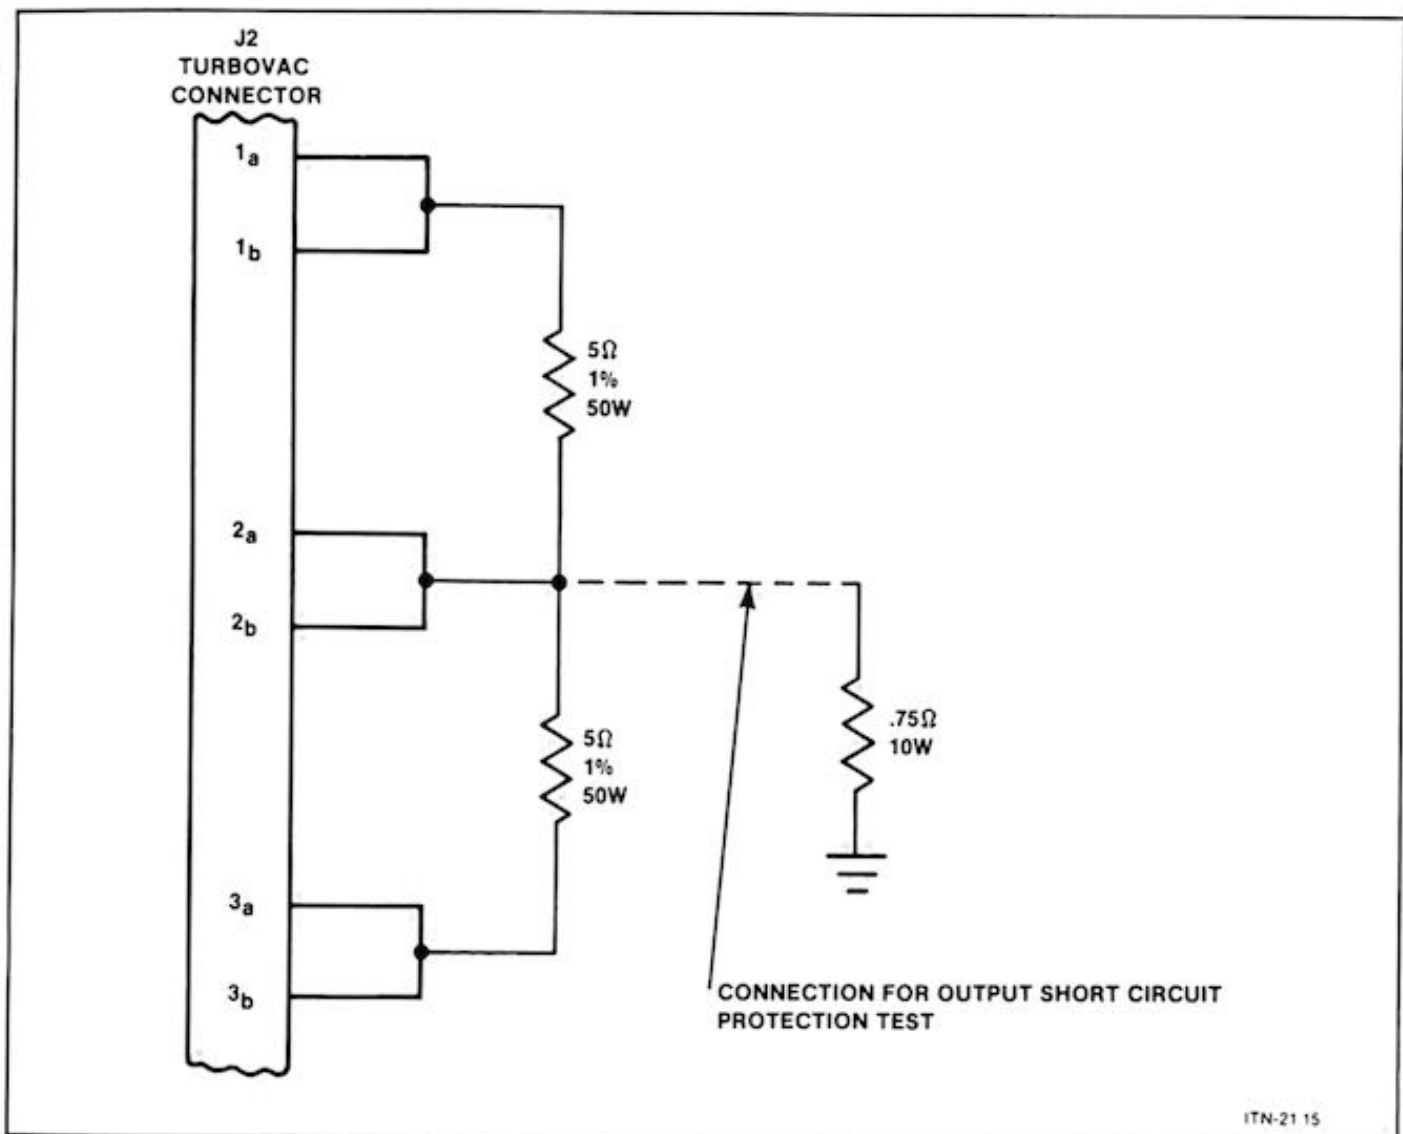

Figure 5-2. Dummy Load for Test #5
The dummy load consists of two low valued resistors (5 ohms, 1%, 50 watts, each) connected from PHI1 to PHI2 and from PHI2 to PHI3. HI and LO outputs of each phase must be connected together (see Figure 5-2). The outputs will switch between two states, holding each for a short time. For the first state, PHI1 and PHI3 will be low and PHI2 high; and for the second state, PHI1 and PHI3 will be high and PHI2 low. This exercises all output transistors.
2. Connect two 5 ohm, 1%, 50 watt resistors to TURBOVAC connector J2 as shown in Figure 5-2.